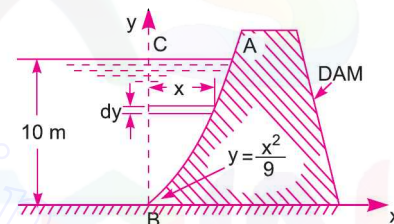

Fig. 3.37
**Problem 3.29** Find the magnitude and direction of the resultant water pressure acting on a curved face of a dam which is shaped according to the relation  $y = \frac{x^2}{9}$  as shown in Fig. 3.37. The height of the water retained by the dam is 10 m. Consider the width of the dam as unity.